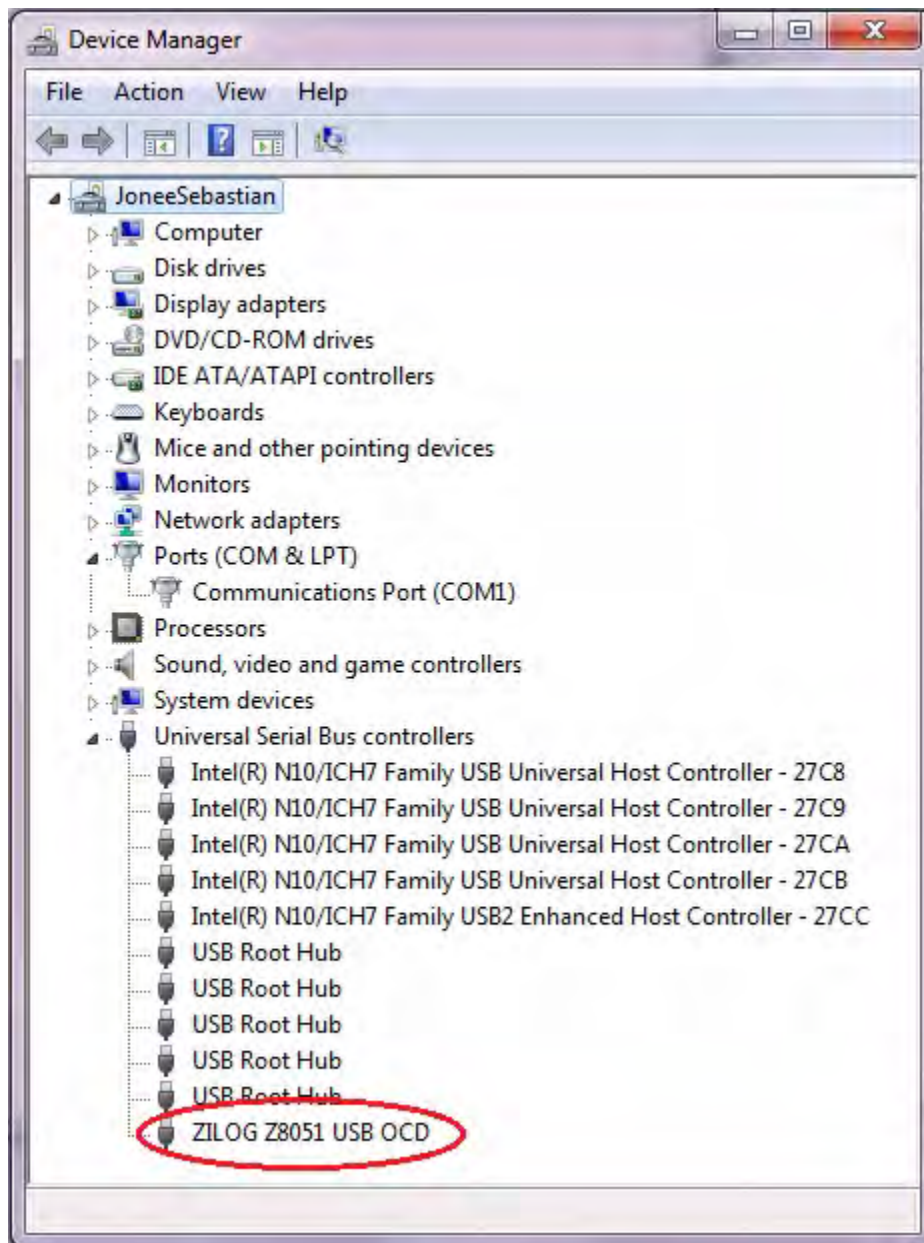

Figure 99. Device Manager Dialog, Windows 7
3. If *Zilog Z8051 USB OCD* appears in the Device Manager (as highlighted in Figure 99), the OCD driver software has been successfully installed.